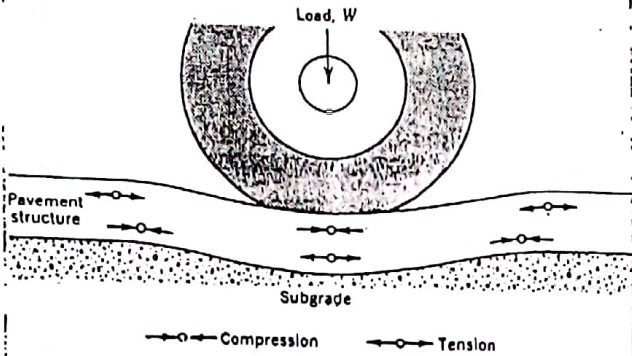
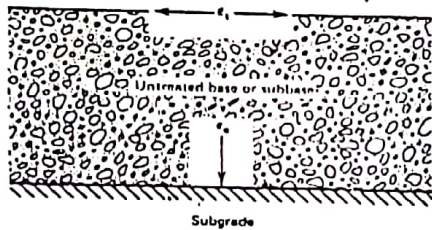

FIGURE 2. Pavement deflection results in tensile and compressive stresses in pavement structure. (Courtesy The Asphalt Institute.)
FIGURE 3. Strains in a flexible pavement.
2. The vertical load W causes the pavement structure to deflect, creating both compressive and tensile stresses in the pavement structure (Fig. 2). In developing the design procedure, A.I. engineers calculated induced horizontal tensile strains ϵ_1 at the bottom of the asphalt layer and vertical compressive strains ϵ_2 at the top of the subgrade (Fig. 3).